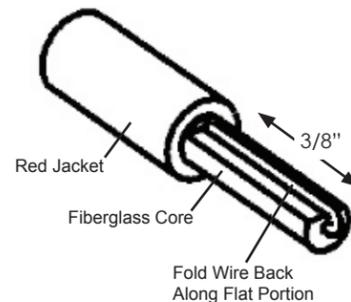

Fig. 2
3. Using sharp knife, strip away a flat spot on remaining 3/8" portion of fiberglass core approximately as deep as wire diameter (.02"). Cut exposed wire length to approximately 3/8" and lightly strip away thin coating on copper wire. Fold wire back along flat spot in fiberglass core (Fig. 2).